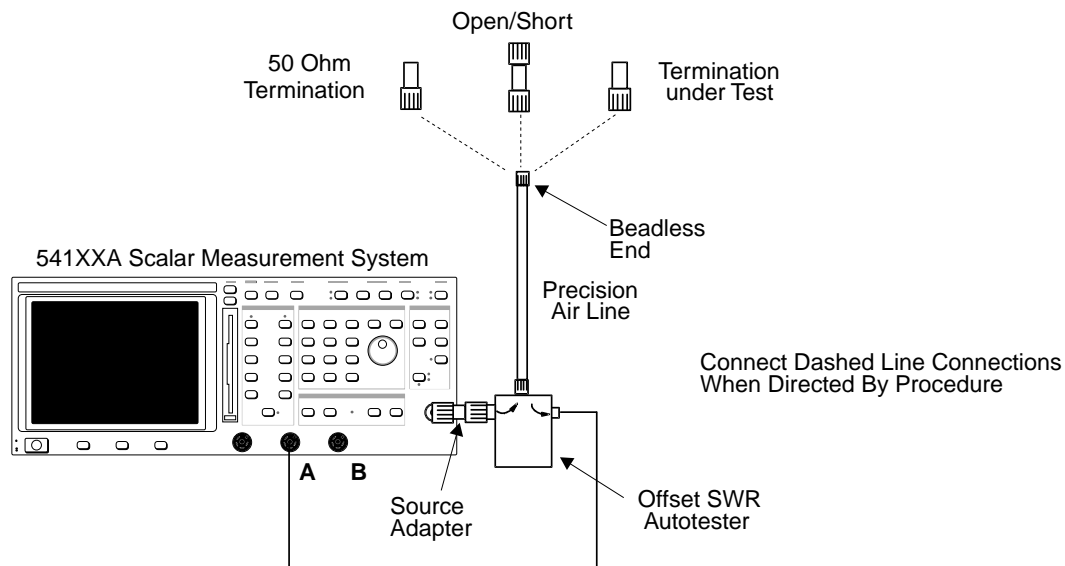

Figure 3. 541XXA Precision Return Loss Setup
1. Connect the test equipment as shown in Figure 3, page 4.